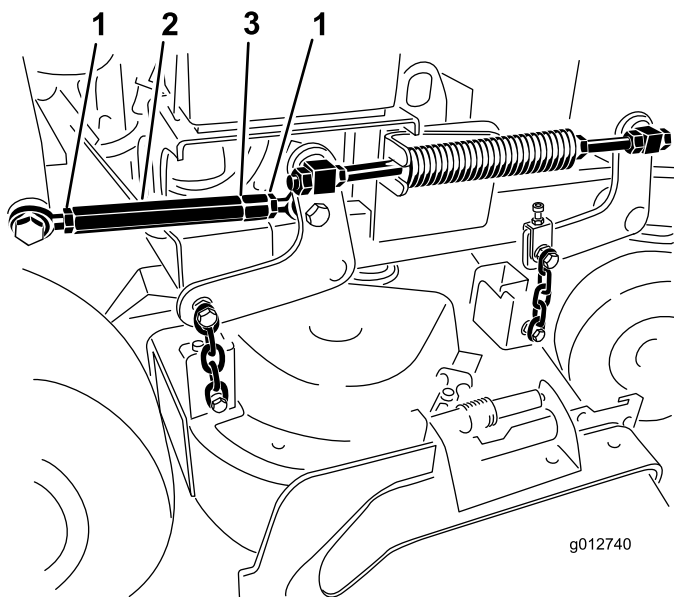

Figure 88
- Loosen the jam nuts at both ends of the turnbuckle (Figure 88).
Note: The end of the turnbuckle with the groove machined in it has left hand threads (Figure 88).